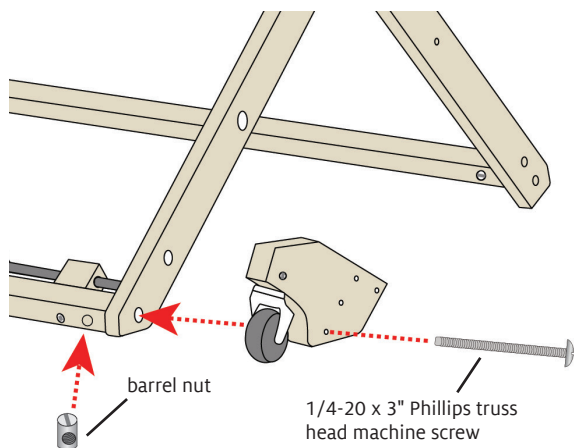

FIGURE 5: ATTACH FRONT STROLLER BLOCK TO TREADLE SUPPORT
4. Insert a 1/4-20 x 3" Phillips truss head machine screw through the bottom hole of the stroller block, then partway through the leg (Figure 5). Insert the barrel nut from step 2 into the treadle support, holding it in place with a slotted (flat) screwdriver. Fully tighten the screw into the barrel nut.